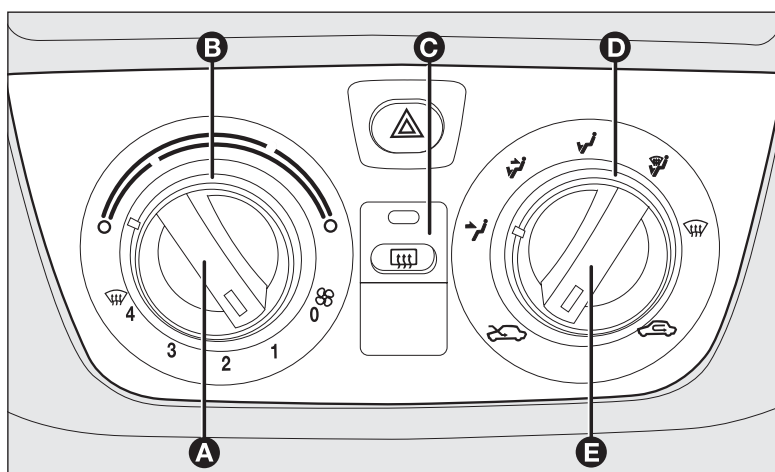

fig. 60
CONTROLS fig. 60
The ring **D-fig. 60** is used to make fresh air reach the entire passenger compartment. There are five selections:
Turn the ring **B-fig. 60** (indicator pointing to the red sector) rightwards to turn the temperature up or leftwards to turn it down;
- ☐ turn the ring **B-fig. 60** to the blue sector;
- ☐ turn the ring **B-fig. 60** to the red sector;
- ☐ stop internal air recirculation by turning knob **E-fig. 60** to .
Press button **C-fig. 60** to activate the function. The LED in the button will light up when the function is on.